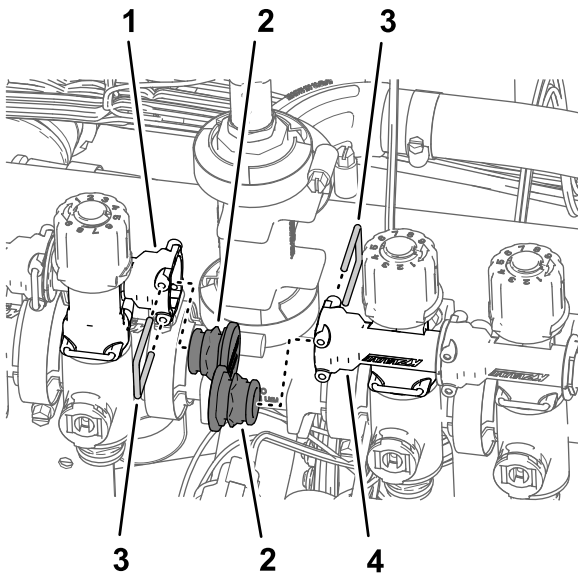

Figure 98
3. Remove the retainers that secures the plugs in the sockets of the quick disconnect fitting at the nozzle valve 5 and nozzle valve 6, and remove the plugs (Figure 98).